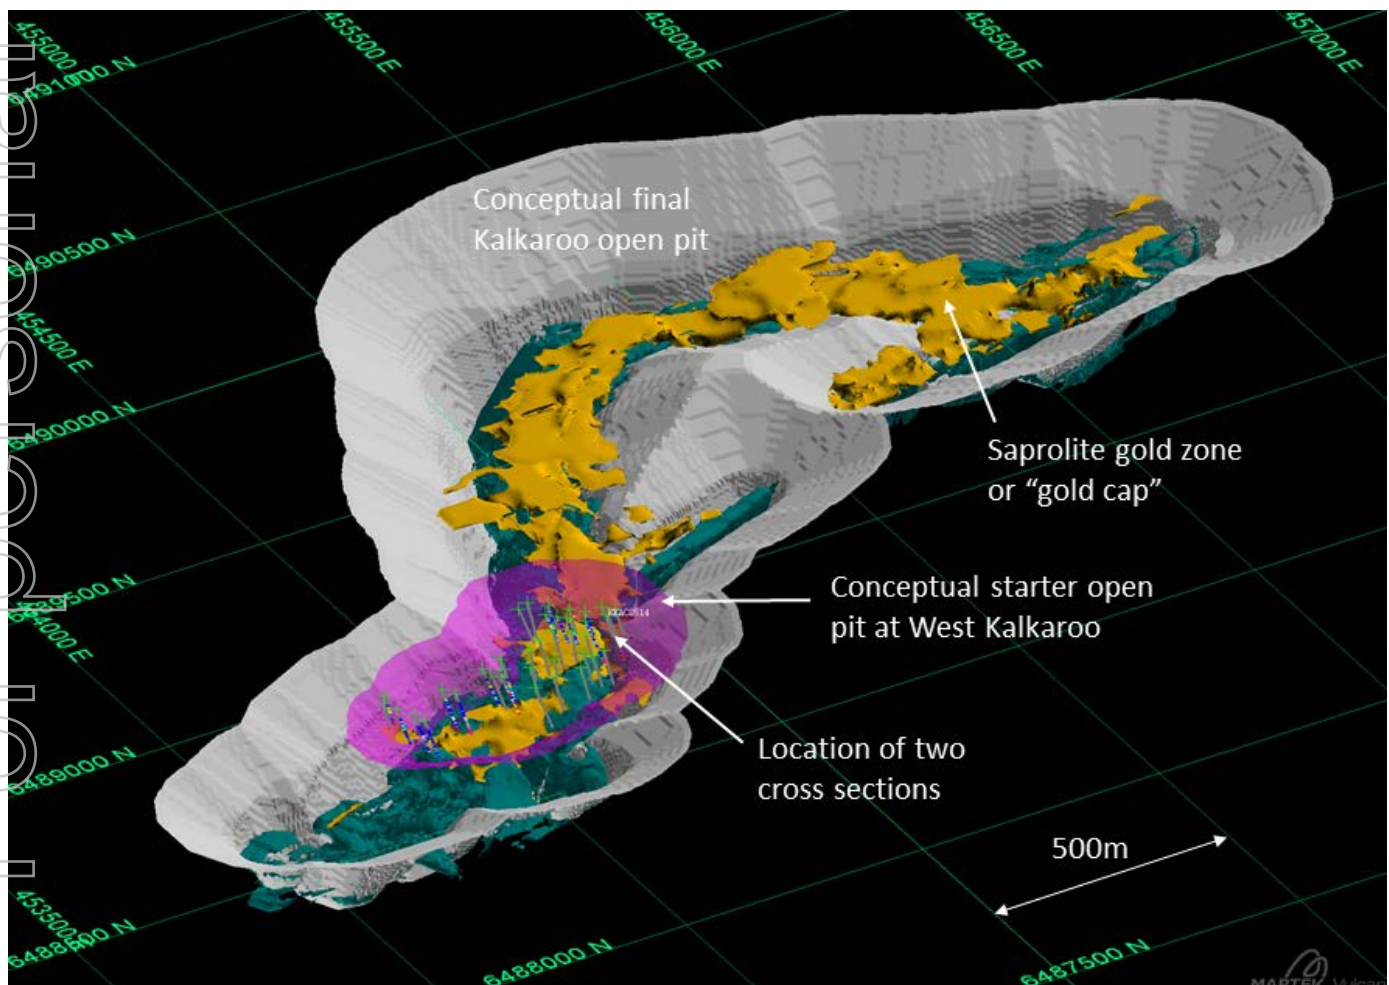

Figure 1 Area of drilling within the confines of the conceptual starter open pit at West Kalkaroo in relation to the greater Kalkaroo copper-gold deposit.
Havilah Resources Limited (Havilah or Company) is pleased to report gold assay results received for its ongoing shallow gold resource drilling at West Kalkaroo. This drilling is being carried out by Havilah's drilling crew using the aircore (AC) drilling method, which is suited to clayey material and soft decomposed rock. The specific objectives are to define a gold resource in Tertiary age Namba Formation clays and to better define the underlying saprolite gold mineralisation within the confines of a conceptual starter open pit (Figure 1).